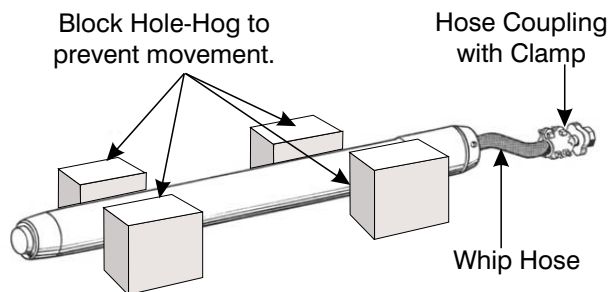

Figure 11-2. Secure Hole-Hog in place.
1. Place the Hole-Hog on the work area tarp. Block it so the Hole-Hog will not accidentally roll off the work surface. Leave the Whip Hose (14) and Hose Coupling (17) easily accessible, as shown in Figure 11-2.